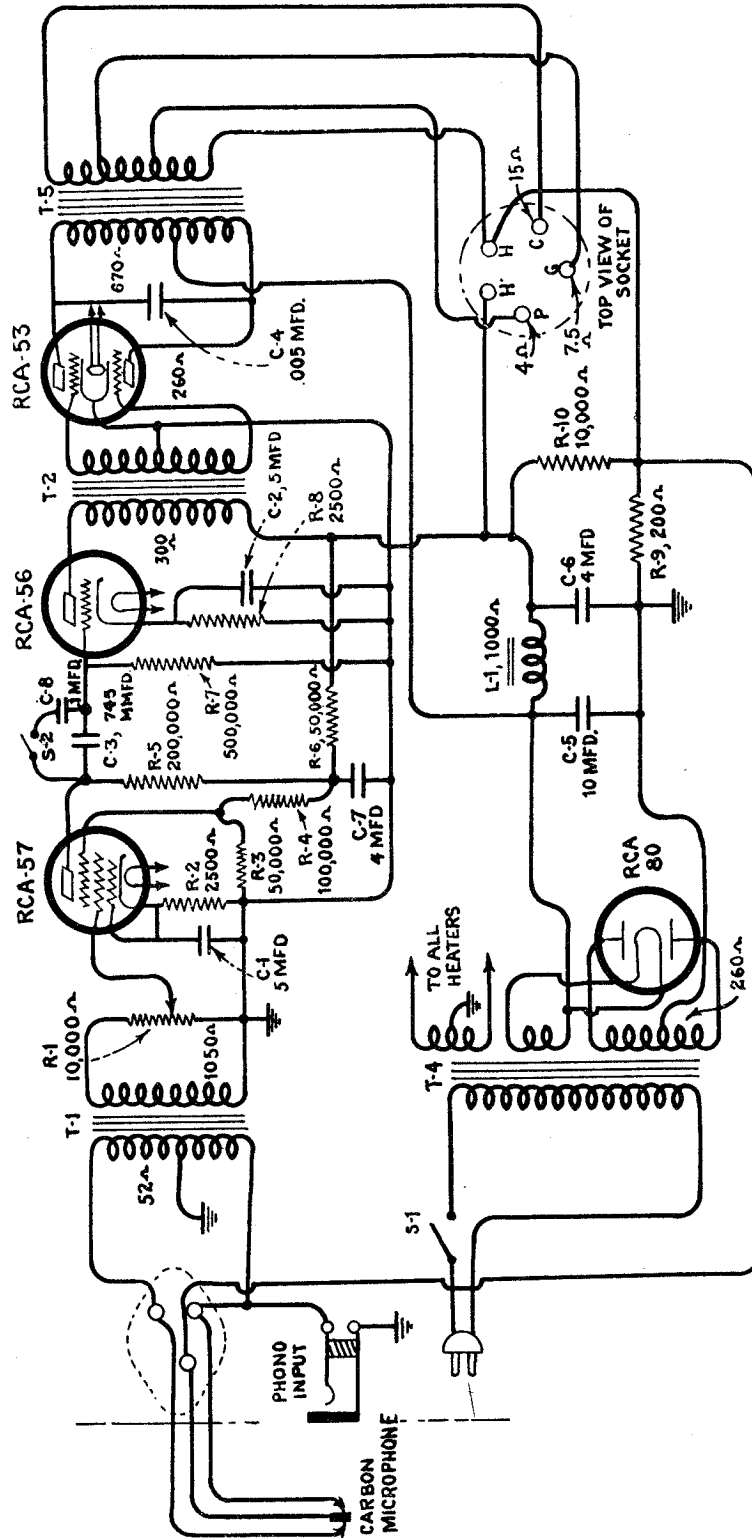
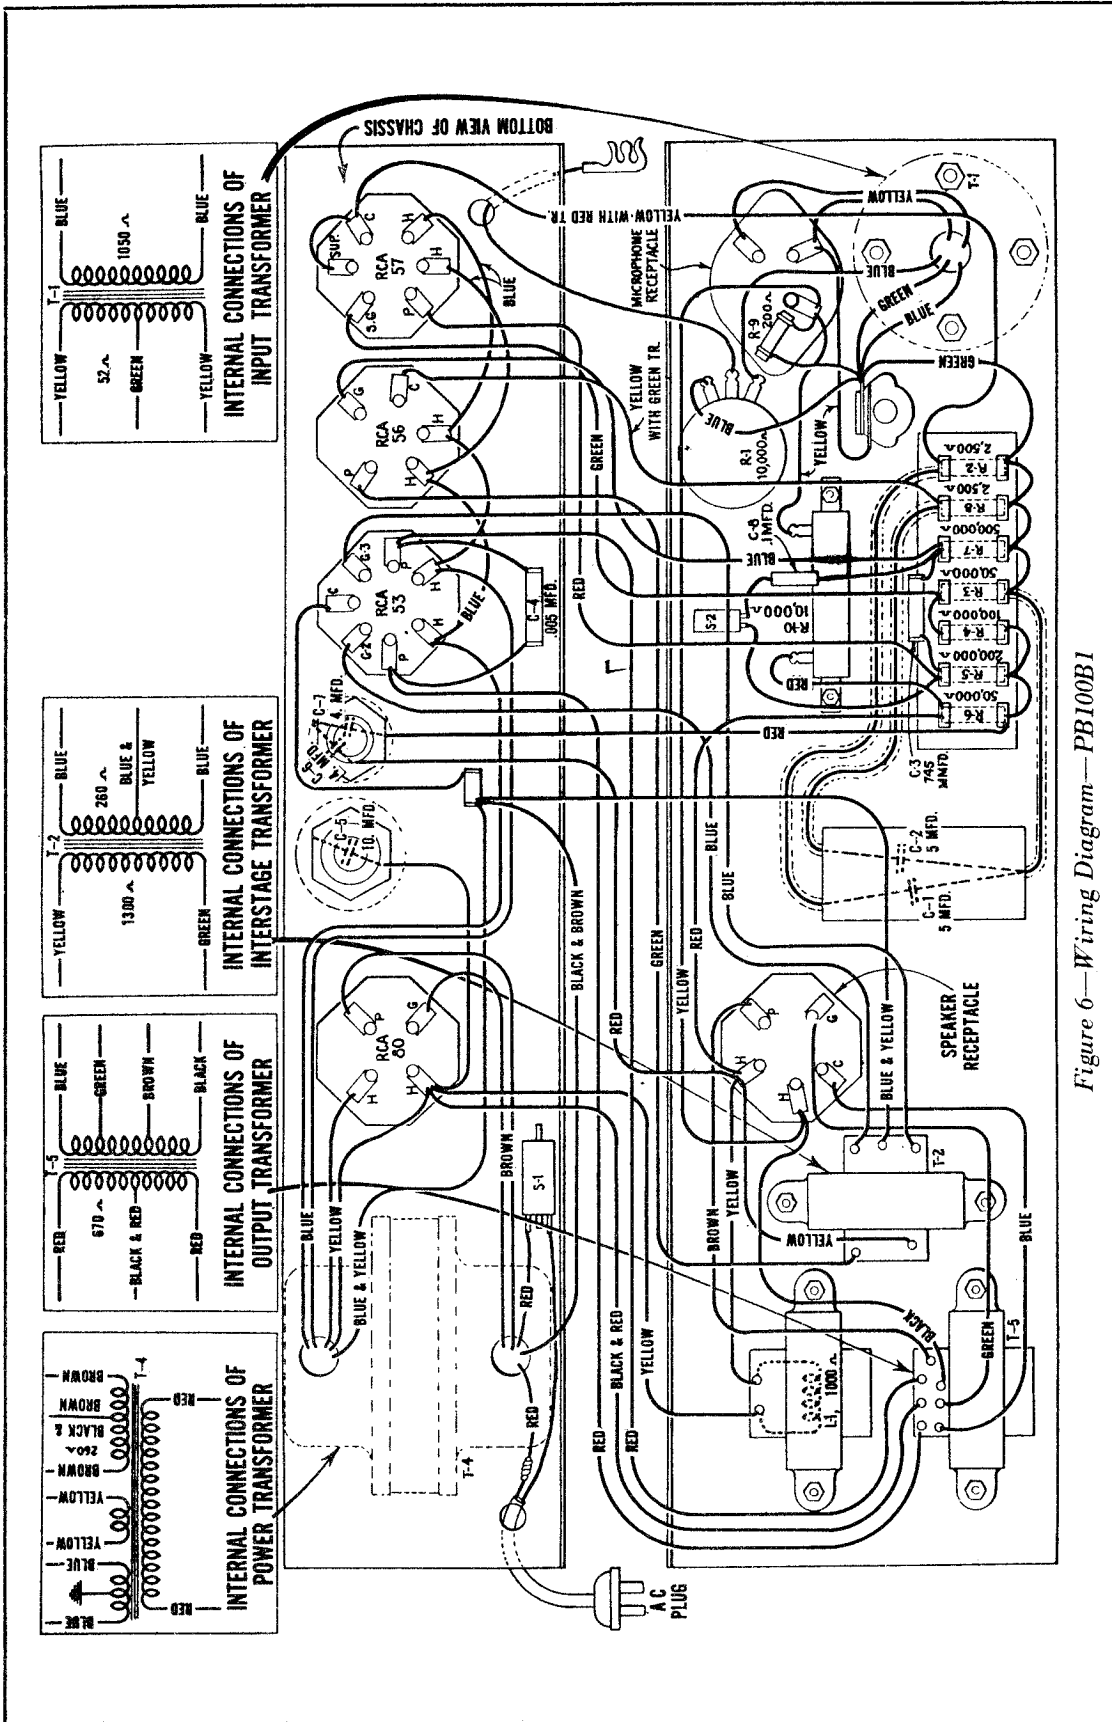

Figure 4—Schematic Circuit Diagram—PB-100B1
Figure 6—Wiring Diagram—PB100B1
3. Make connections between the voice coil of the loudspeaker and two prongs of the five-pole plug so that the proper impedance match is obtained between the loudspeaker and the output transformer. See Figure 4. Insert the loudspeaker plug into the corresponding receptacle on the side of the amplifier base.
The schematic wiring diagram for the PB100A1 amplifier equipment is shown in Figure 3 and that for the PB100B1 is shown in Figure 4. The wiring diagram for the complete PG-63 equipment is shown in Figure 5. Figure 6 shows the wiring diagram for the PB100B1 amplifier.